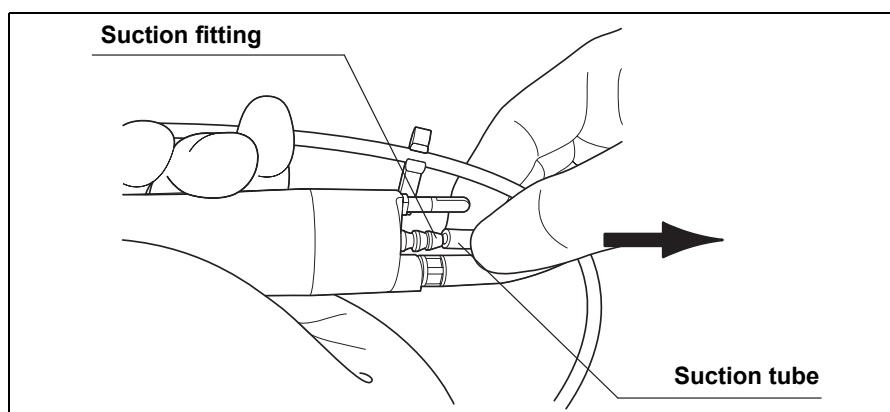

Figure 7.5
4. Disconnect the suction tube from the suction fitting of the sheath (see Figure 7.5).